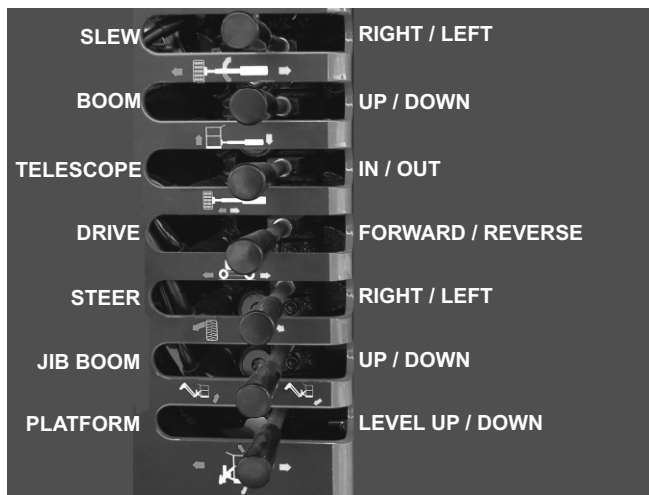

Figure 5.3—Ground Control Levers
5. **Manual Control Levers:** The levers control all functions from the ground control station. Each lever is clearly marked with symbols indicating its function (see Figure 5.3 for a description of the specific function for each control lever).